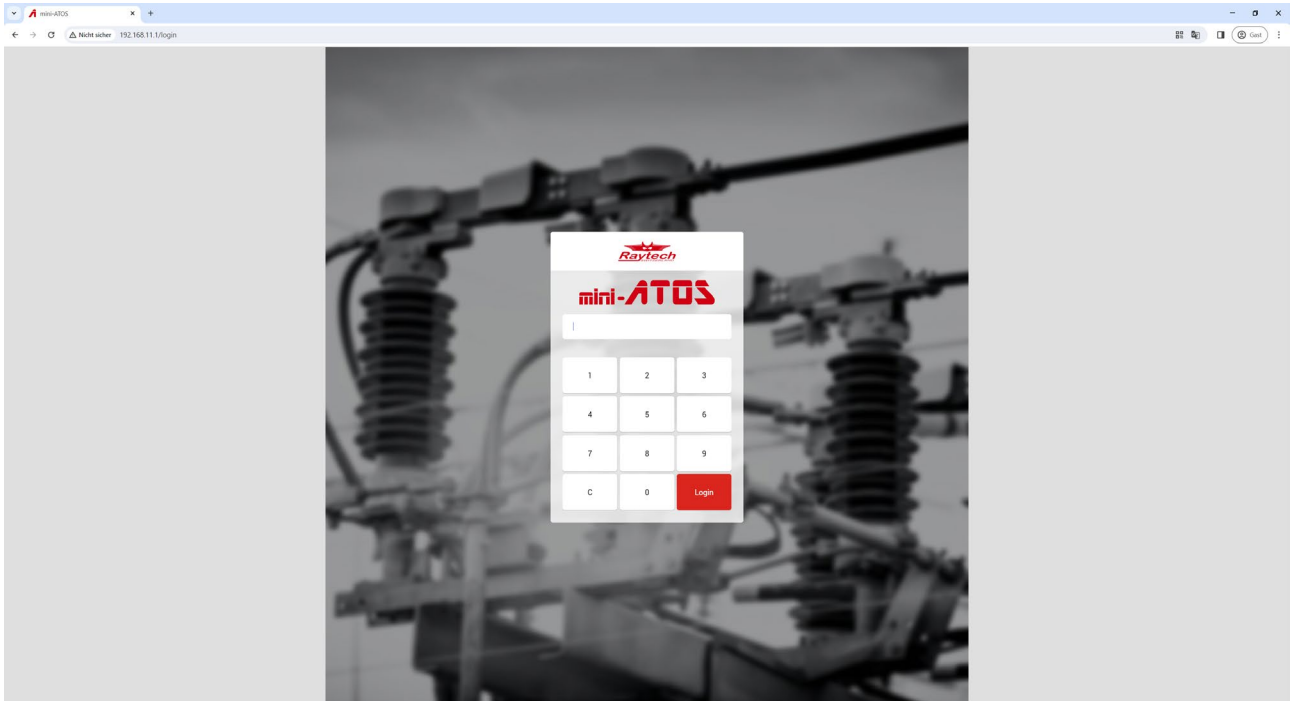

Figure 110: Remote access login page
- 6- Enter the access key and confirm to access the software (Figure 110)